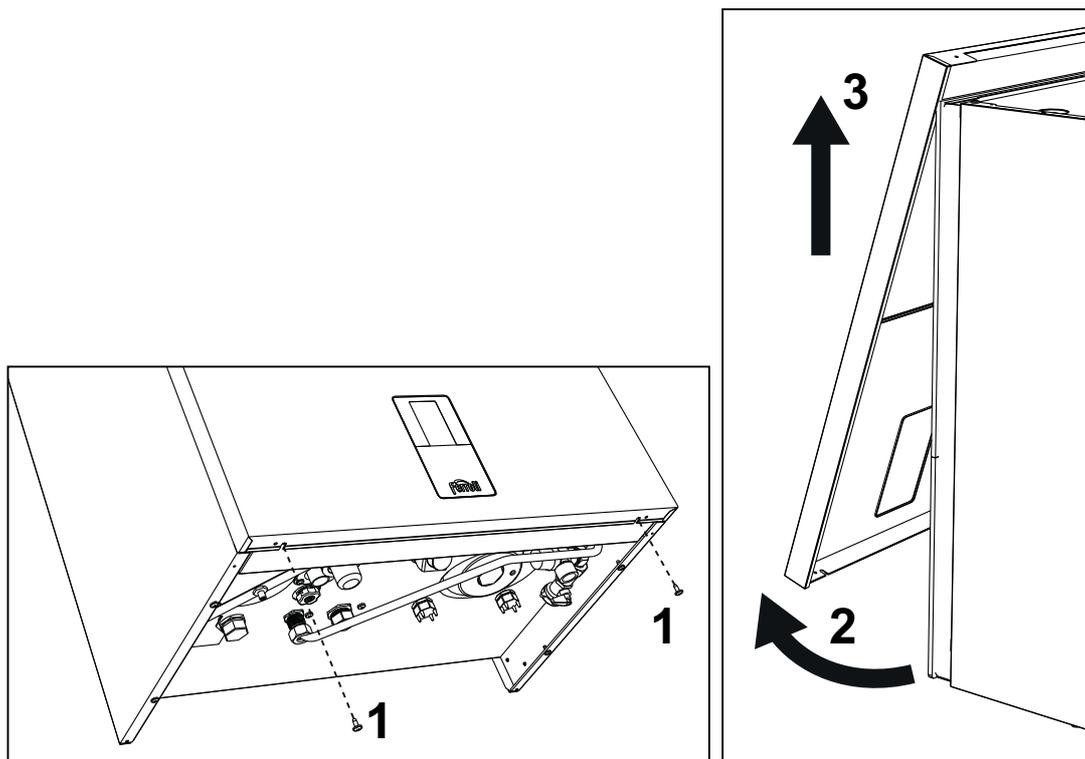

fig. 54- Front panel opening
1. Undo the screws "1" (see fig. 54).